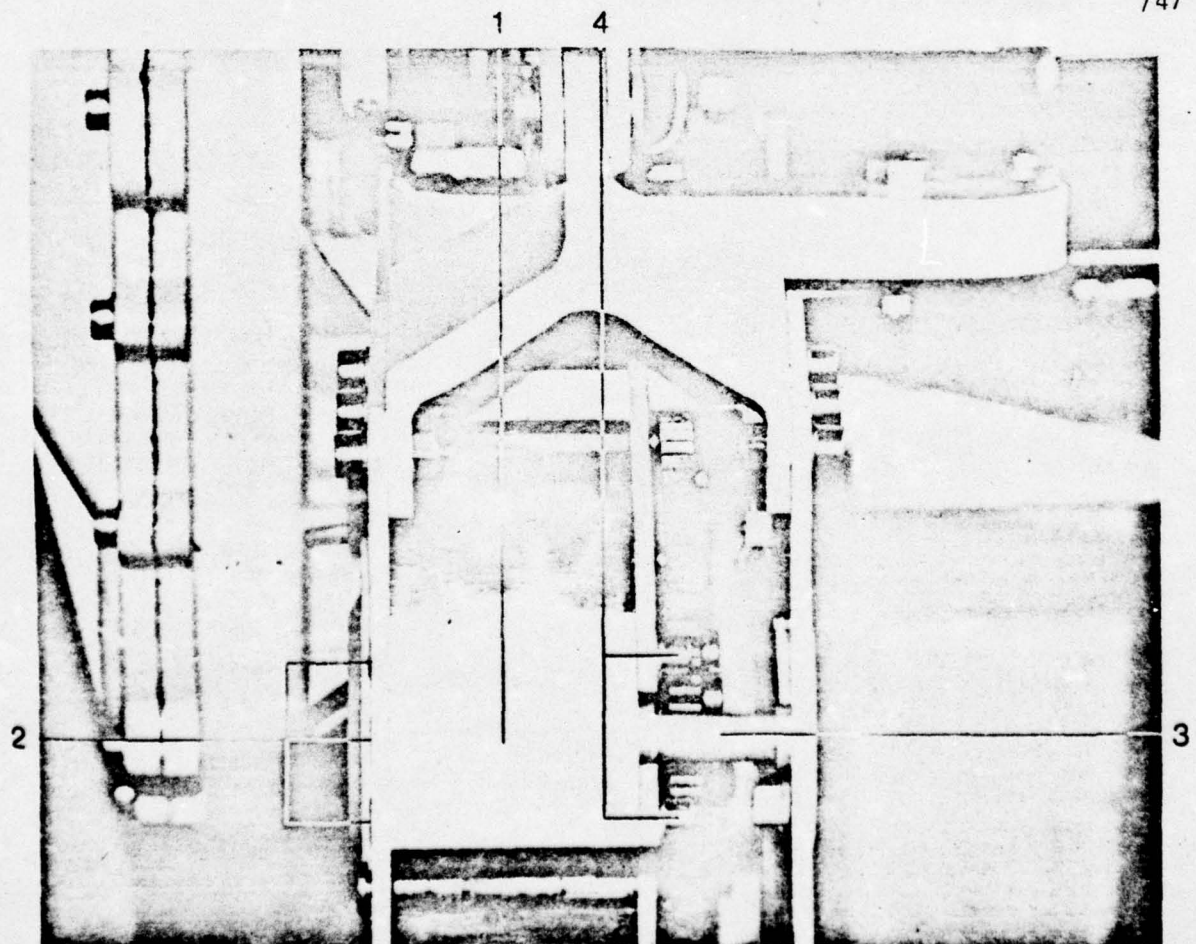

Figure 3.7. Hoisting gear
12. Separator (1, Figure 3.7) to be removed. For this purpose, disassemble three countersunk screws M6 x 16 DIN 7991 (2, Figure 3.7) and one countersunk screw M6 x 50 DIN 7991 (8, Figure 3.3) with spacer tube (3, Figure 3.7). Then, using a shortened hexagonal socket screw wrench (EGA Item 22), remove from the inside two cheesehead screws M6 x 16 DIN 912 along with plate 6.4 DIN 125 (4, Figure 3.7).
24. Spacer (1, Figure 3.7) and spacer tube (3, Figure 3.7) as well as support with turnbuckle (6/7, Figure 3.3) to be installed.